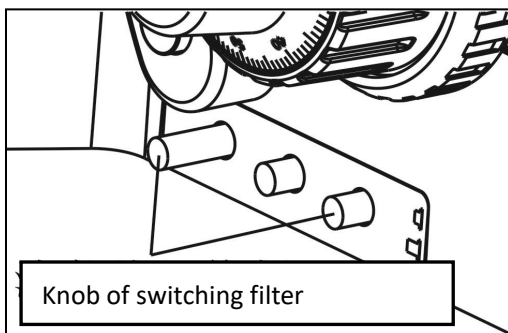

Fig 13
3-11Using Frosted Sheet(figure 13)
As shown in figure 13, the state of using filter is push in the rod. When push out the rod, filter is in an empty state. LBD is a filter of increasing color temperature. ND25 is a filter of 25% light transmittance. ND6 is a filter of 6% light transmittance.
As shown in fig13, converter reserves a slot to hold the extensional function board. The ordinary light field board has been inset the slot before The lens of microscope leaving factory. If using other extensional function board, only need to tear down and loosen ②, pull out the standard light field board, then inset the extensional function board into the slot and freeze the bolt of ② .